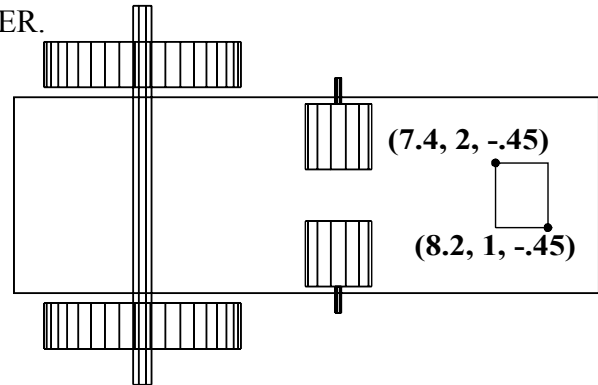

FIG. 11
Step 10. In the Top View, start the rectangle with a click at coordinates **(7.4, 2, -.45)**, Fig. 11. Move the cursor to stretch the rectangle to coordinates **(8.2, 1, -.45)** and click.